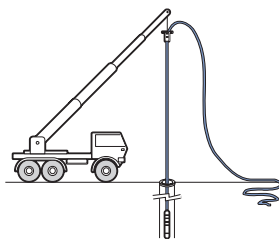

Fig 1.26
- 1.5.2.16 Attach the top coupling and head-works. Lift the head-works with the crane, remove the **WELLMASTER** clamp, attach the last cable straps and finally lower the well-head assembly onto the borehole casing (Fig. 1.26).